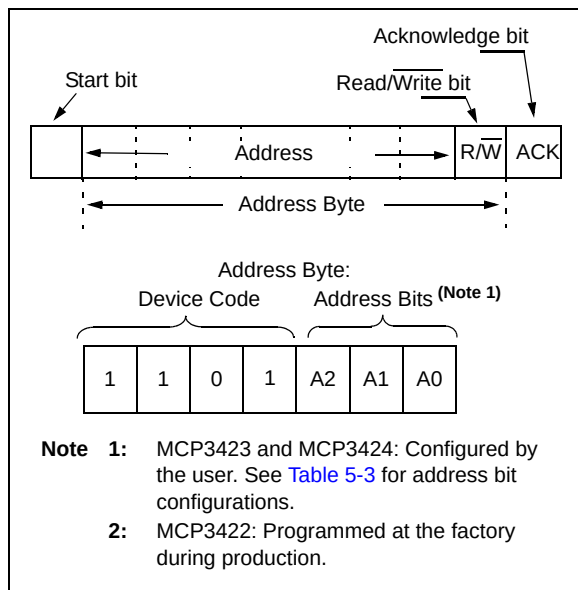
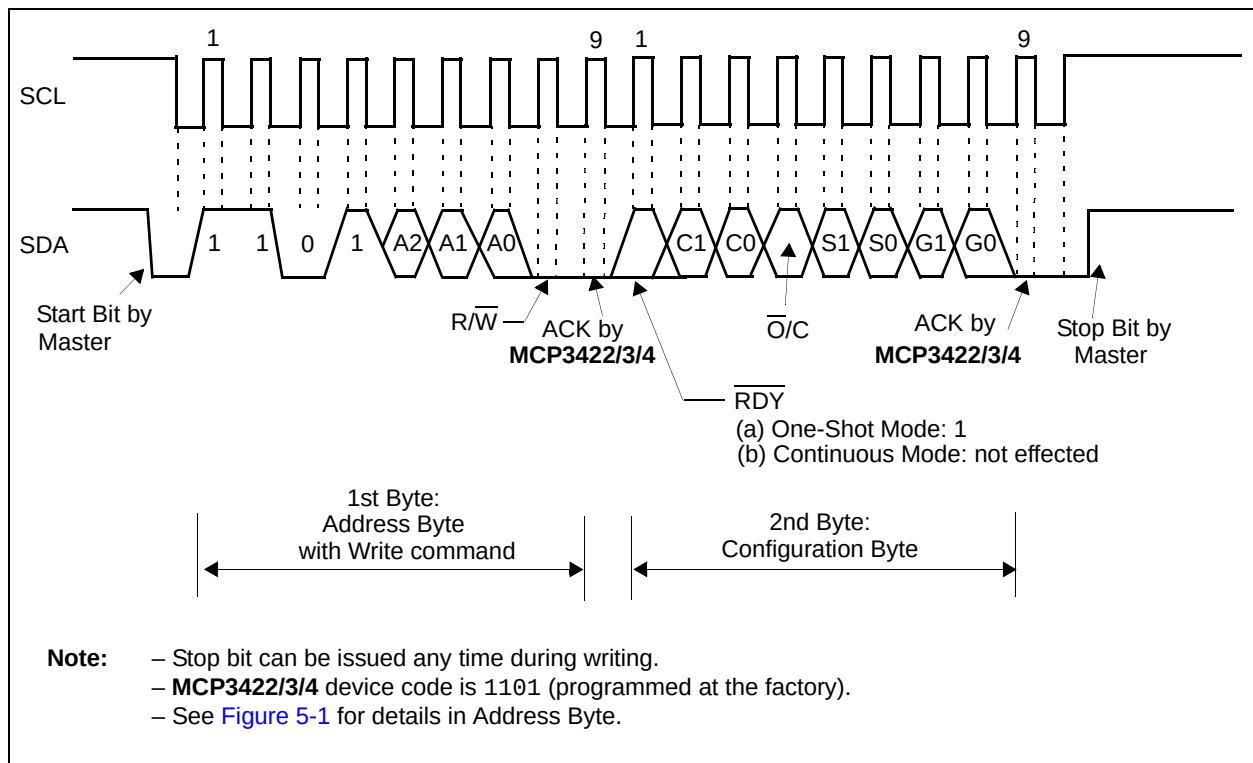
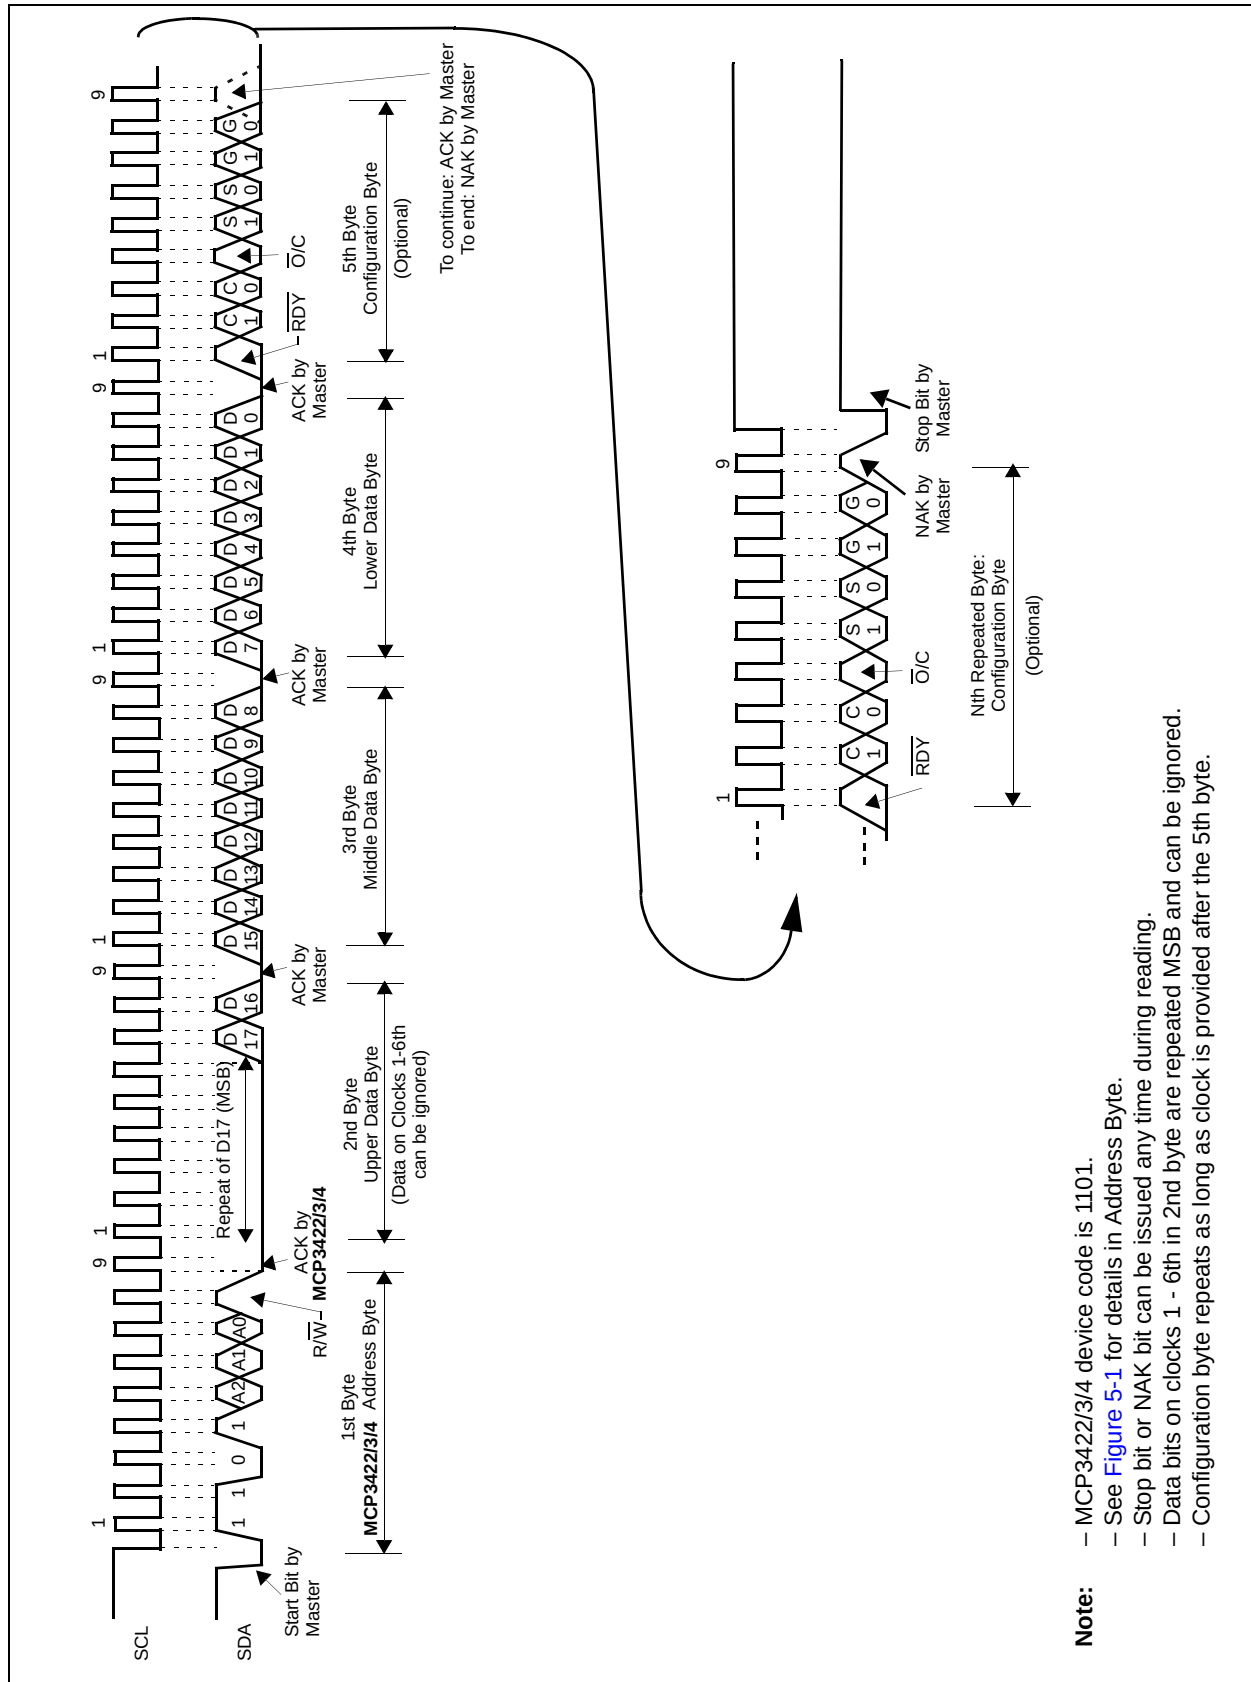
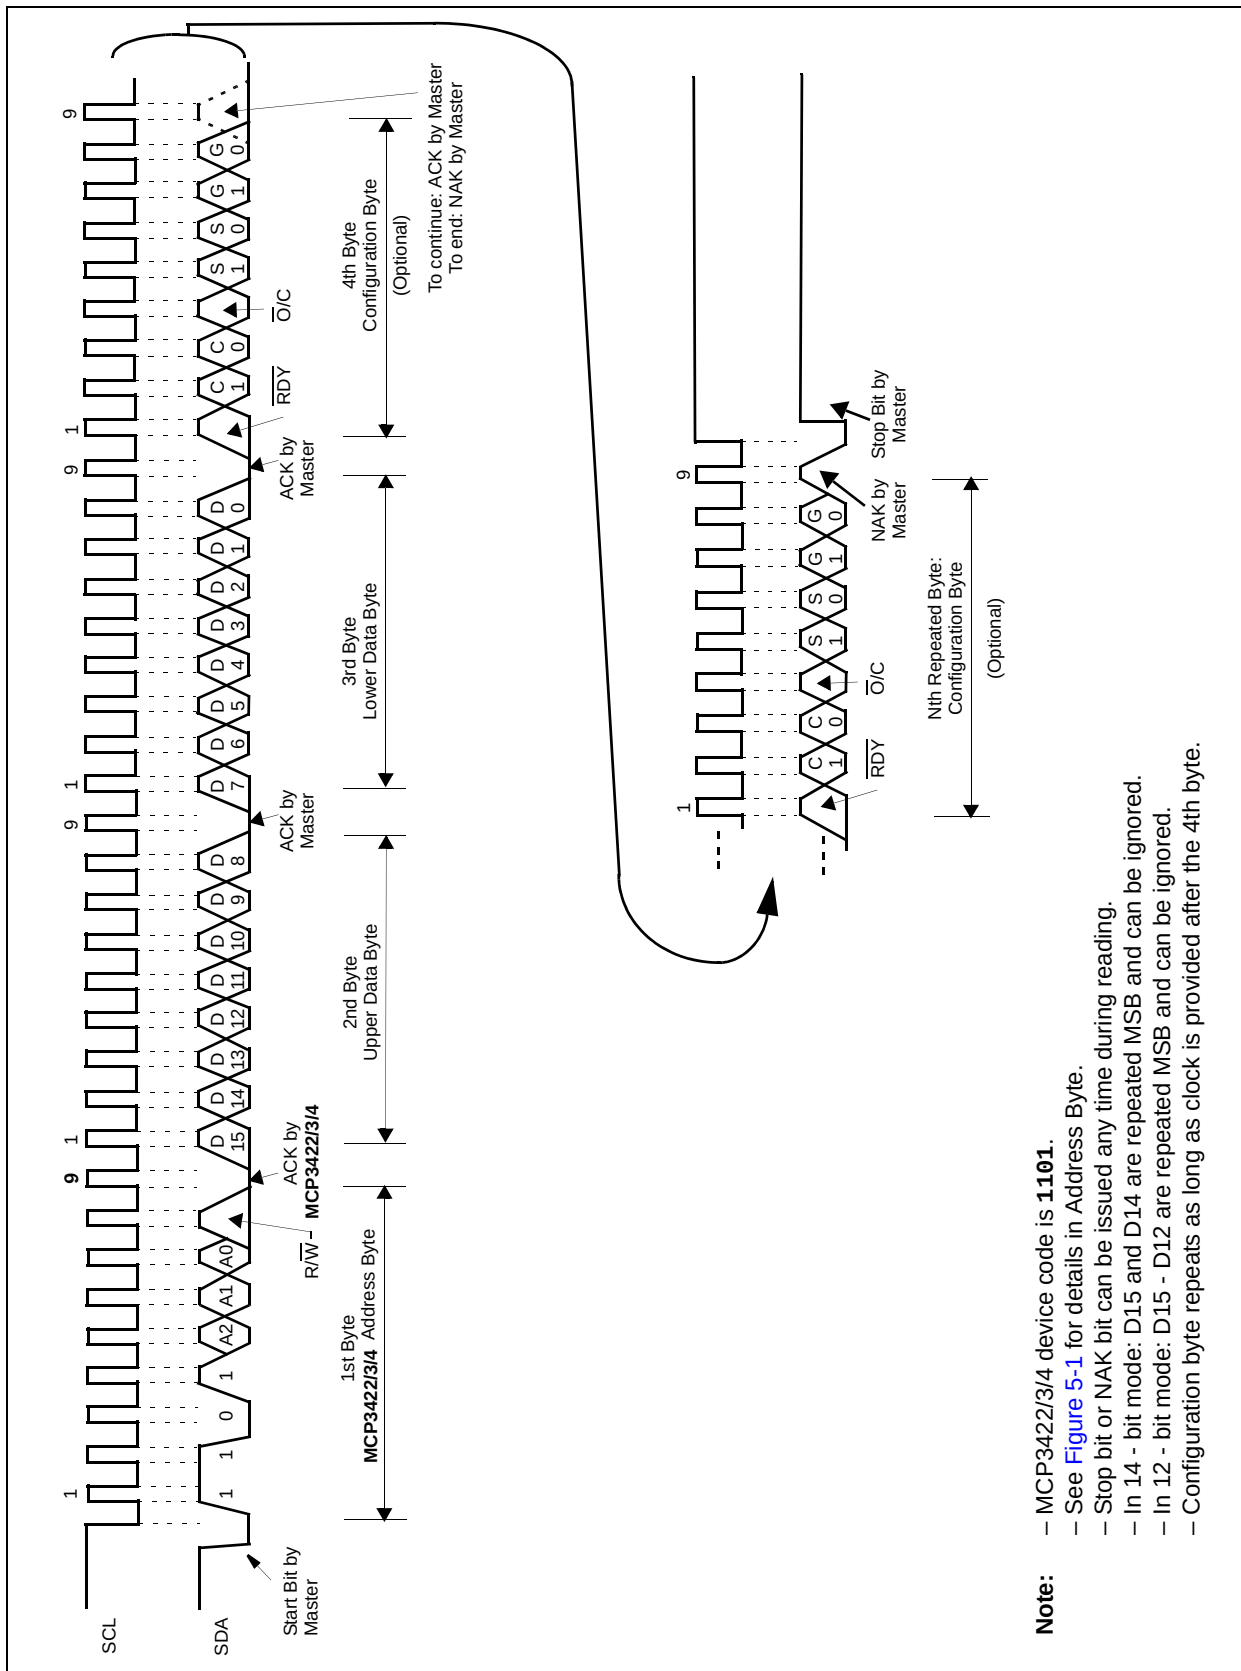

FIGURE 5-1: Address Byte.
FIGURE 5-3: Timing Diagram For Writing To The MCP3422/3/4.
FIGURE 5-4: *Timing Diagram For Reading From The MCP3422/3/4 With 18-Bit Mode.*
FIGURE 5-5: Timing Diagram For Reading From The MCP3422/3/4 With 12-Bit to 16-Bit Modes.
Figure 5-4 and Figure 5-5 show the examples of reading the conversion data. The user can rewrite the configuration byte any time for a new setting. Table 5-1 and Table 5-2 show the examples of the configuration bit operation.
The first byte after the START bit is always the address byte of the device, which includes the device code (4 bits), address bits (3 bits), and R/W bit. The device code for the devices is **1101**, which is programmed at the factory. The I²C address bits (A2, A1, A0 bits) for the MCP3423 and MCP3424 are user configurable and determined by the logic status of the two external address selection pins on the user's application board (Adr0 and Adr1 pins). The Master must know the Adr0 and Adr1 pin conditions before sending read or write command. Figure 5-1 shows the details of the address byte.
Figure 5-1 shows the address byte. Figure 5-3 through Figure 5-5 show how to write the configuration register bits and read the conversion results.
Figures 5-4 and 5-5 show the timing diagrams of the reading.
- See Figure 5-1 for details in Address Byte.